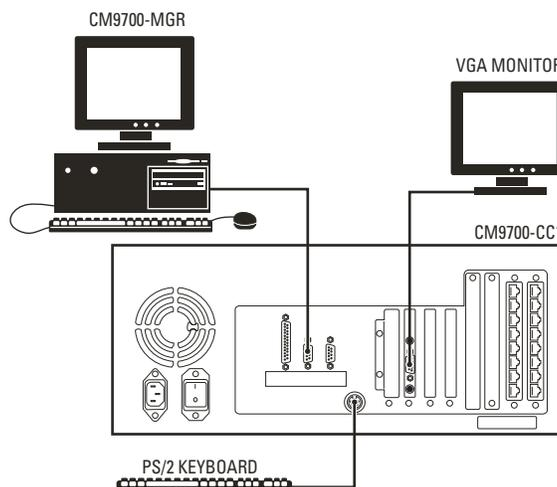
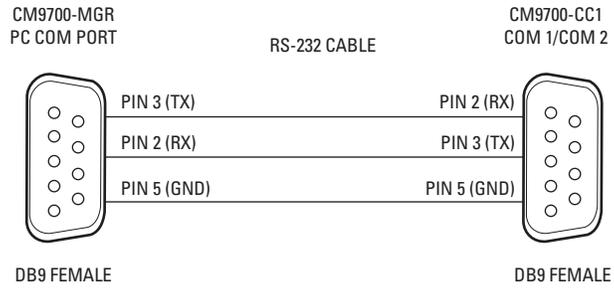
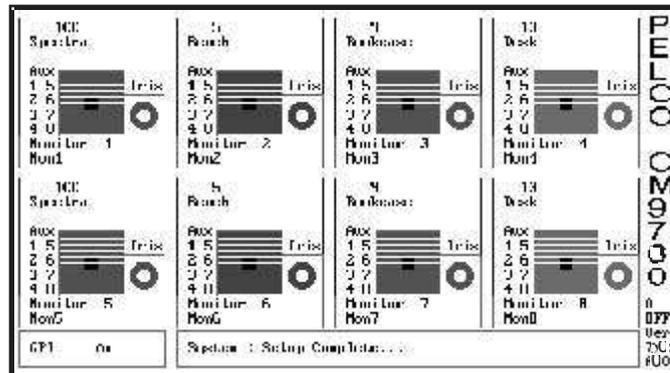

Figure 21. CM9700-CC1 Device Connections
Figure 22. CM9700-MGR PC Pin-Out Detail
Figure 25. CC1 Initialization
3. Connect a VGA monitor to the CM9700-CC1, as shown in Figure 21. This monitor displays the CC1 system diagnostic screen, as shown in Figure 25.
4. Connect the PS/2 keyboard to the PS/2-to-AT keyboard adaptor, and then connect the adaptor to the CM9700-CC1, as shown in Figure 21.
5. Complete the following steps to connect a PC to the CM9700-CC1 (refer to Figure 21 and Figure 22):
- b. Plug the other end of the cable into the DB9 COM 1 port on the CC1, as shown in Figure 21. This port is configured at the factory for use with the CM9700-MGR and RS-232 communication.